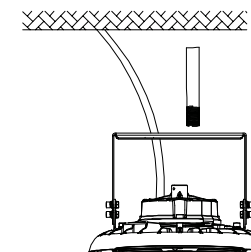

Figure 9
2. Insert the 1/2" NPT stem into the bracket hole (see Figure 9).